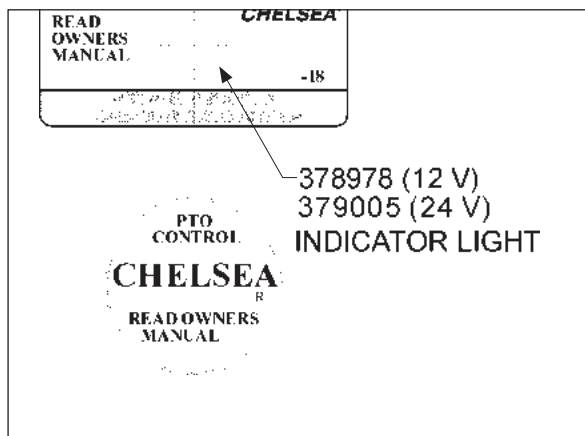

Figure 19
5. Install the control plate (68-P-18) stick on decal and indicator light on the dash using the hardware supplied in the 328751-1X installation kit (**Fig. 19**).